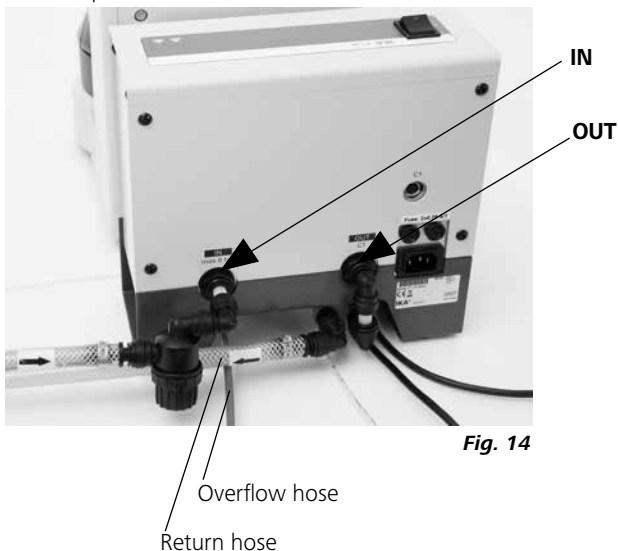

Fig. 14
Connecting parts X/Y C 1 to the C 1.20 heater (see Fig. 14)
- If you are connecting a water tap: Ensure that the C 1 return and overflow hoses are positioned over a drain (see Fig. 14).